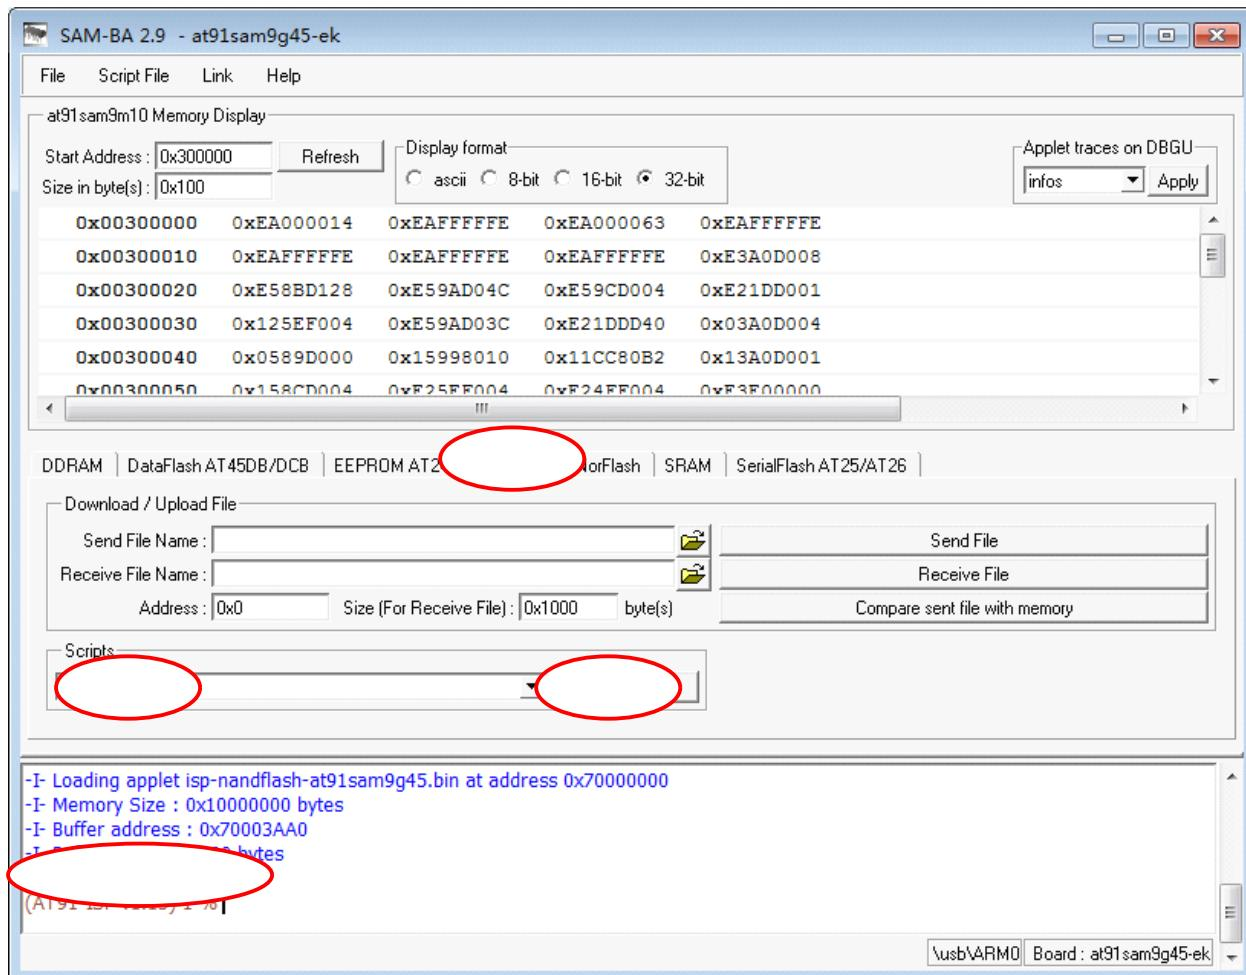

Figure 12.2.4
1. As show in Figure 12.2.4 in the Scripts pulldown menu of SAM-BA v2.9, select Enable
NandFlash, and click Execute button in the column Scripts to enable NAND flash on SBC6045 board. After the Enable operation is successful, the interface as shown in Figure 12.2.4 will appear: